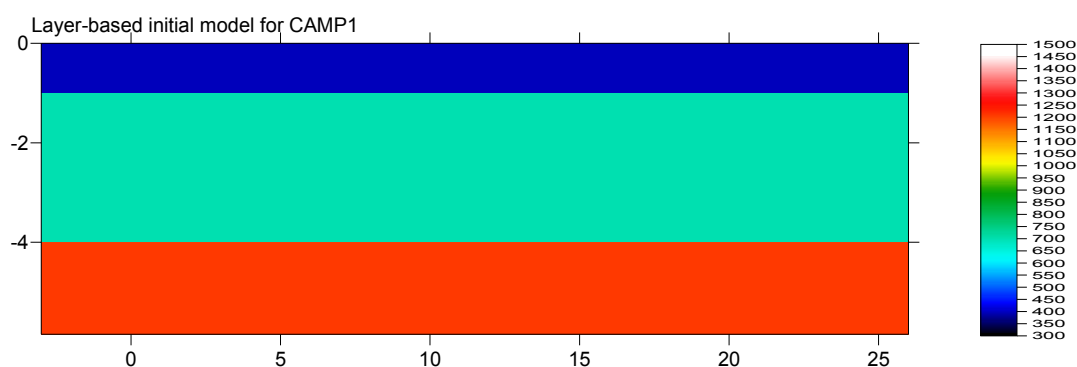

Fig. 5 : Layer-based initial model, for profile CAMP1.
15. Click *OK button* to generate our layered initial model. Select *Map|Image Map...* and LAYERS.GRD file. Double-click the resulting plot with left mouse key. Check *Show color scale* in *General tab*. Click on *Colors bar*, and load *Color scale* \RAY32\RAINBOW2.CLR. In frame *Data to Color Mapping*, set *Minimum* to 300, and *Maximum* to 1800. Adapt *Limits and Scale tabs* to obtain Fig. 5 below :